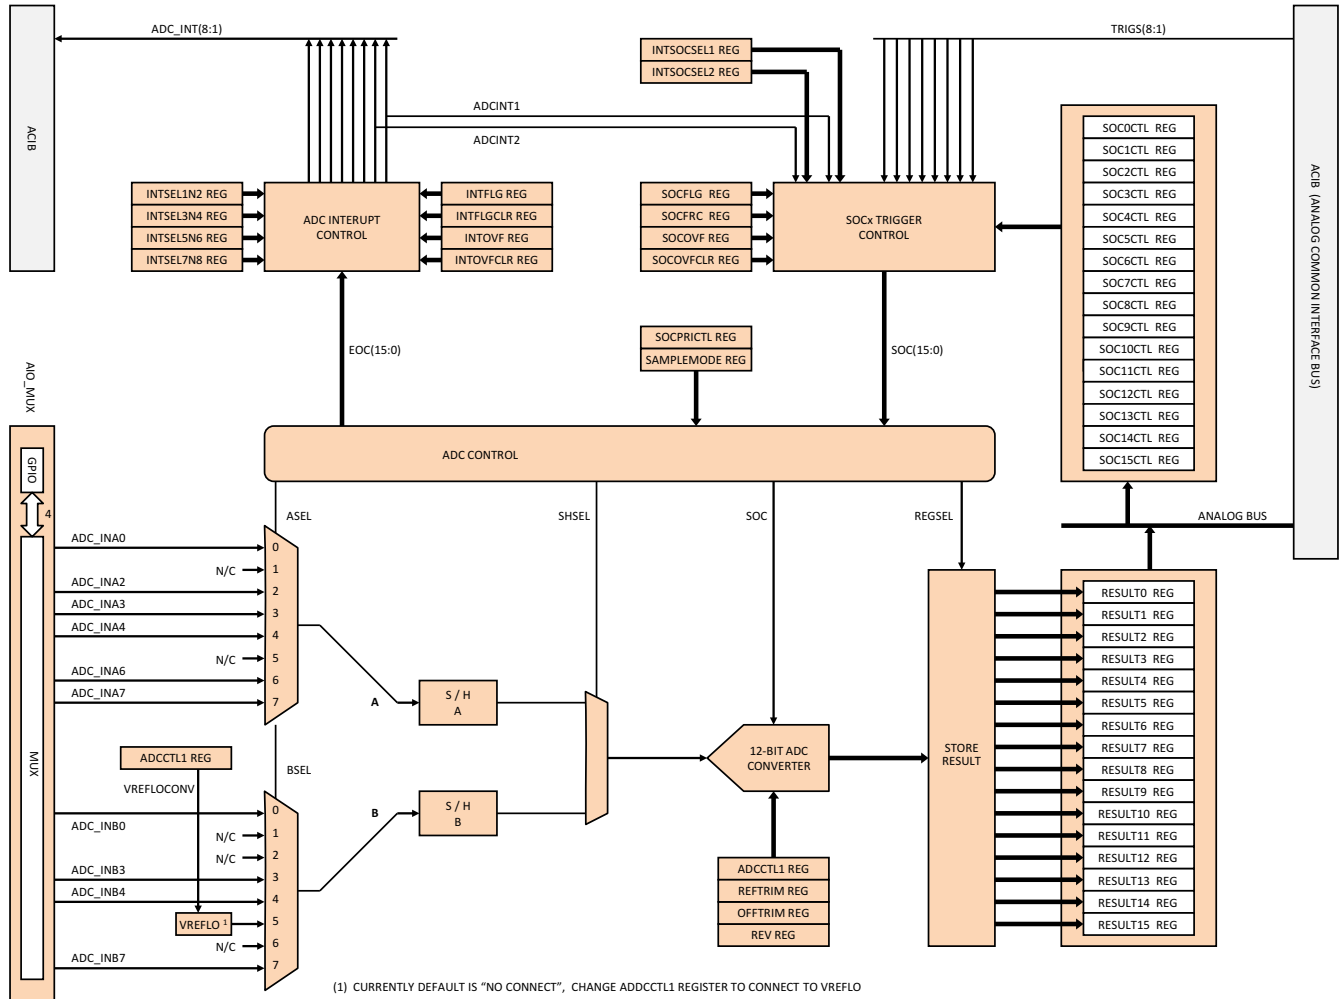

图 7-11. ADC
**Figure 7-11** shows the internal structure of each of the two ADC peripherals that are present on Concerto. Each ADC has 16 channels that can be programmed to select analog inputs, select start-of-conversion trigger, set the sampling window, and select end-of-conversion interrupt to prompt a CPU or DMA to read 16 result registers. The 16 ADC channels can be used independently or in pairs, based on the assignments inside the SAMPLEMODE register. Pairing up the channels allows two analog inputs to be sampled simultaneously—thereby, increasing the overall conversion performance.
The Simultaneous mode is made possible by two sample-and-hold units present in each ADC. Each sample-and-hold unit has its own mux for selecting analog inputs (see  **Figure 7-11**). By programming the SAMPLEMODE register, the 16 available channels can be configured as 16 independent channels, 8 channel pairs, or any combination thereof (for example, 10 sequential channels and 3 simultaneous pairs).
Analog inputs to each of the two ADC modules are organized in two groups—A and B, with each group having a dedicated mux and sample-and-hold unit (see 图 7-11). Mux A selects one of six possible analog inputs through AIO MUX. Mux B selects one of five possible analog inputs—four external inputs through AIO MUX, and one from the internal VREFLO signal, which is currently tied to the Analog Ground. The Mux A and Mux B inputs can be simultaneously or sequentially sampled by the two sample-and-hold units according to the sampling window chosen in the SOCxCTL register for the corresponding channel.